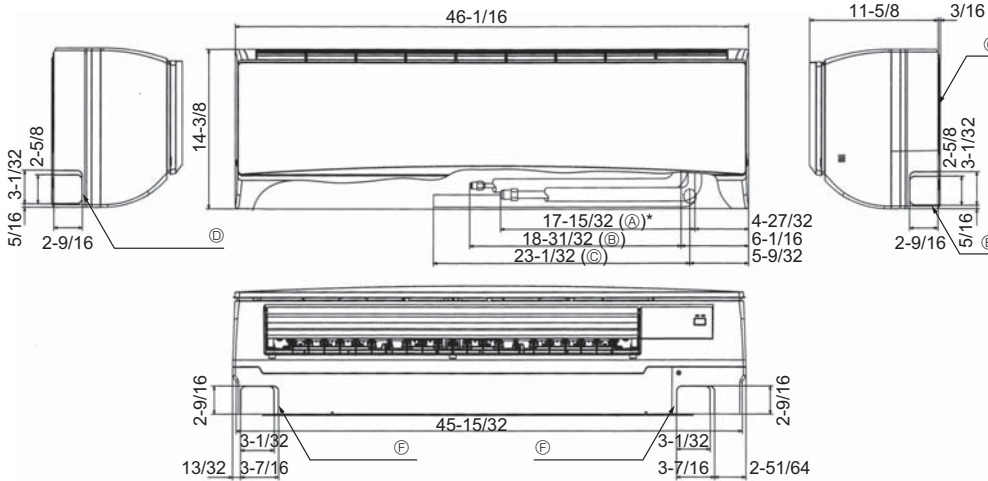

Fig. 4-2
4.3. Positioning refrigerant and drain piping (Fig. 4-2)
- (A) Gas pipe * Indicates the condition with accessories mounted.
- (B) Liquid pipe (C) Drain hose
- (D) Left-side piping knockout hole (E) Right-side piping knockout hole
- (F) Lower piping knockout hole (G) Mount board (H)